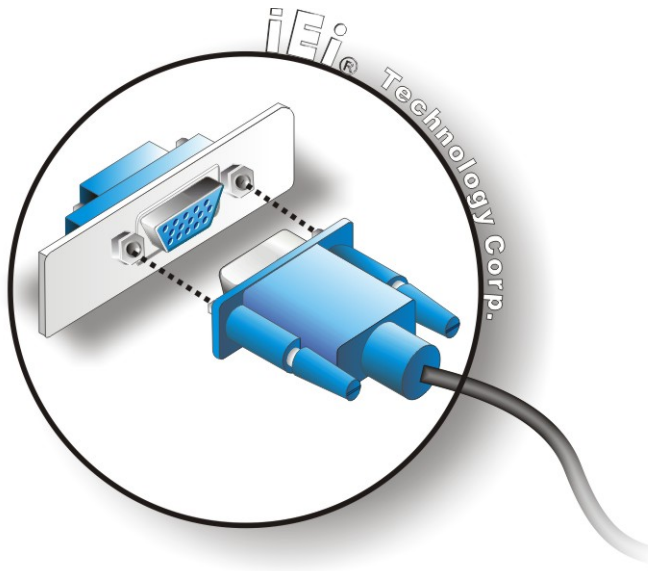

Figure 4-20: VGA Connector
- Step 3: Insert the VGA connector** Once the connectors are properly aligned with the insert the male connector from the VGA screen into the female connector on the IMB-Q670. See **Figure 4-20**.